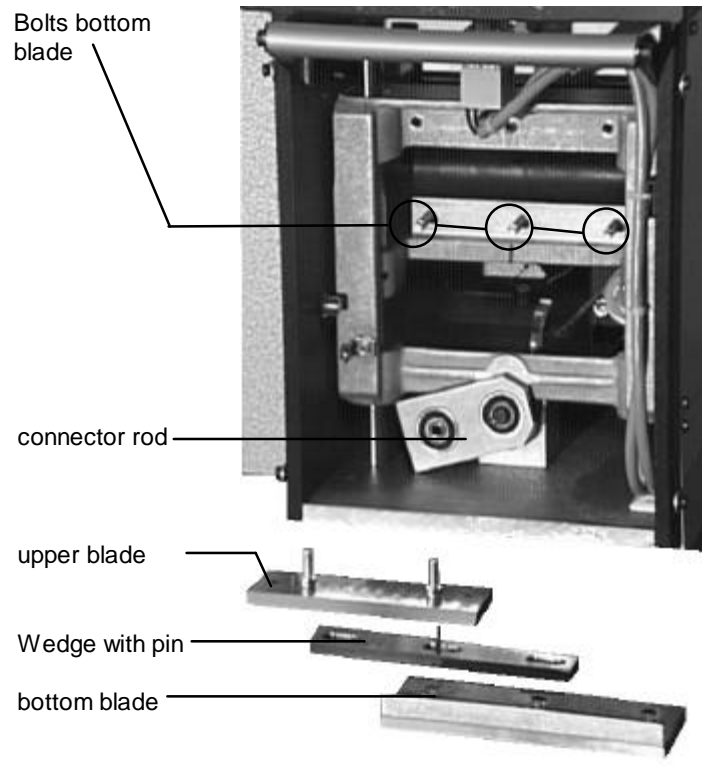

Figure 17. Replacing the bottom blade
- Remove the bottom blade together with the wedge (three M6 bolts with nuts) and clean the inside using a paintbrush and a vacuum cleaner attachment (Figure 17).
- Loosen three nuts on the bottom blade - do not remove (Figure 17, Page 40).